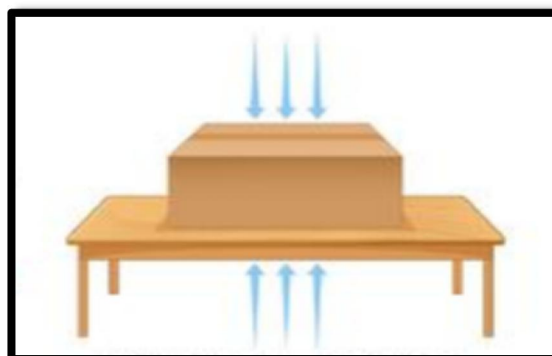

Figure 2.4 Reaction force acting perpendicular to the surface
- The force also known as normal reaction, that **opposes the force exerted on a surface** which is perpendicular to the surface, **in 90°** as shown in **Figure 2.4**.